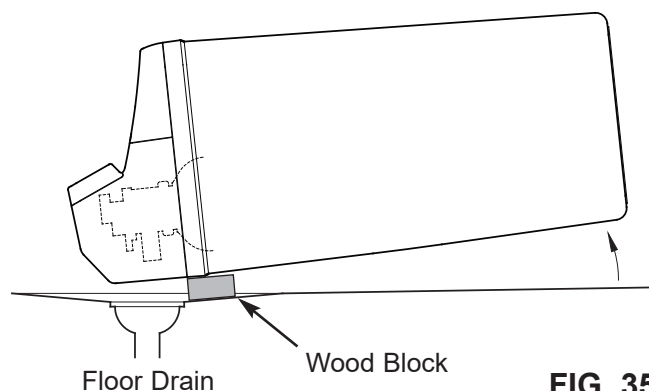

FIG. 35
6. Lay a piece of 2 inch thick board near the floor drain (See Figure 35).